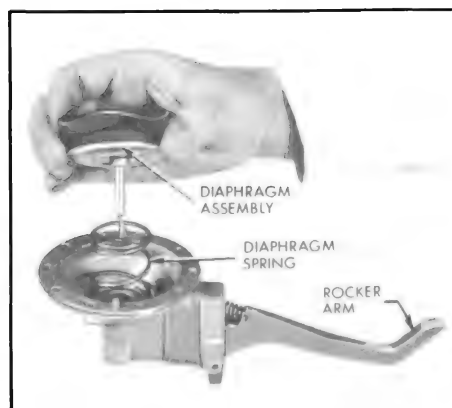

Figure 3-24—Diaphragm Assembly
1. If rocker arm and link were removed (subpar. b above), place new rocker arm spring and link in position in pump body with rocker arm and use a slightly undersize rod through pin hole to line them up. See Figure 3-24. Drive new rocker arm pin through body, forcing lineup rod ahead of it. Install new steel washer over small end of rocker arm pin, support head of pin on a suitable steel block, and peen small end of